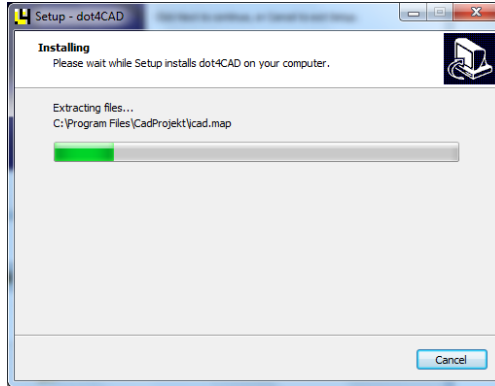

Fig. 41 – installation progress
- The time left to complete the installation can be viewed on the progress bar (Fig. 41);